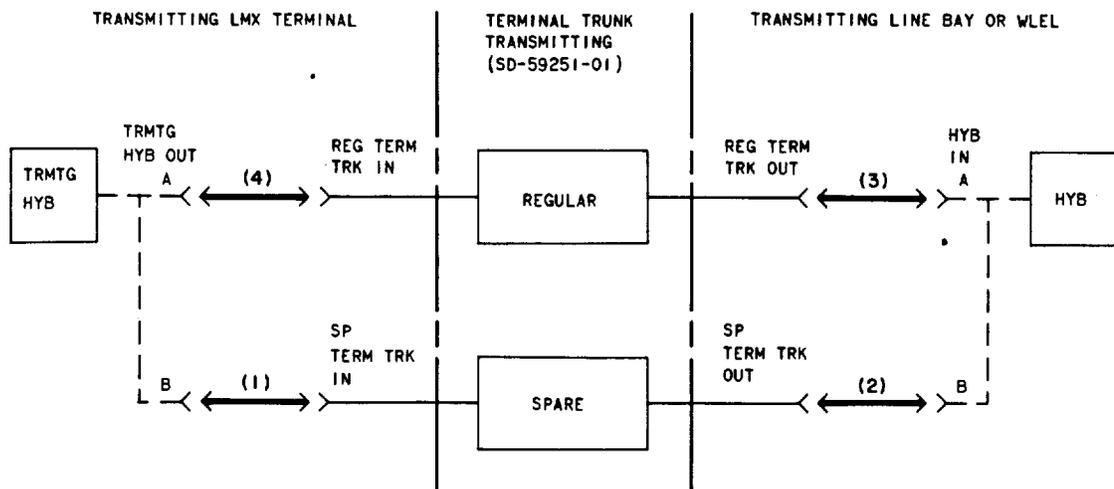

Fig. 2—Removing Regular Transmitting Trunks From Service—Patching Procedure
Removing Regular Transmitting Trunks From Service (Fig. 2)
- 6 At the LMX transmitting high-frequency patch bay (HFPB), using a 372A plug (through connection), connect the TRMTG HYB OUT B jack to the SP TERM TRK IN jack [patch (1), Fig. 2].
- (a) Using a 372A plug, connect the SP TERM TRK OUT jack to the HYB IN B jack [patch (2), Fig. 2].
- (b) Remove the 372A plug from the REG TERM TRK OUT and HYB IN A jacks [patch (3), Fig. 2].
- 10 At the LMX transmitting HFPB, remove the 372A plug from the TRMTG HYB OUT A and REG TERM TRK IN jacks [patch (4), Fig. 2].